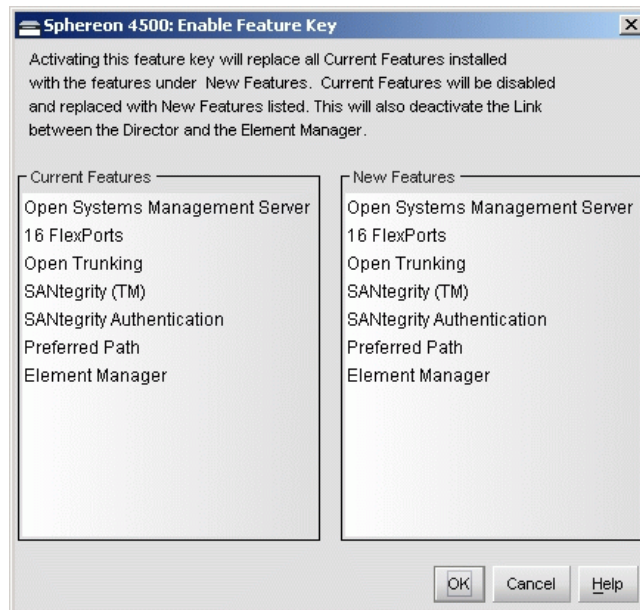

Figure 2-80 Enable Feature Key Dialog Box
4. Type the PFE key (case-sensitive xxxx-xxxx-xxxx-xx format) and click OK. The *Enable Feature Key* dialog box displays (Figure 2-80 on page 2-85).